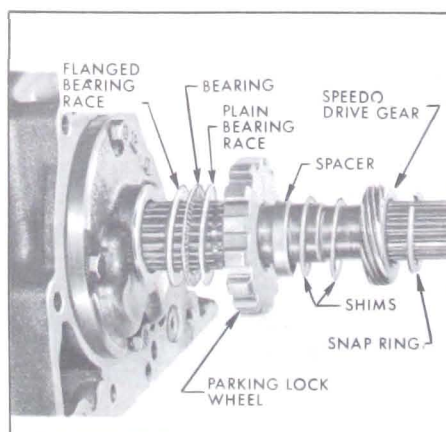

Figure 5-121—Ratchet Wheel and Speedo Gear Installation
15. Assemble flanged needle thrust bearing race over output shaft with flange toward rear oil pump body. Assemble needle thrust bearing against flanged bearing race, then plain race against bearing. See Figure 5-121.